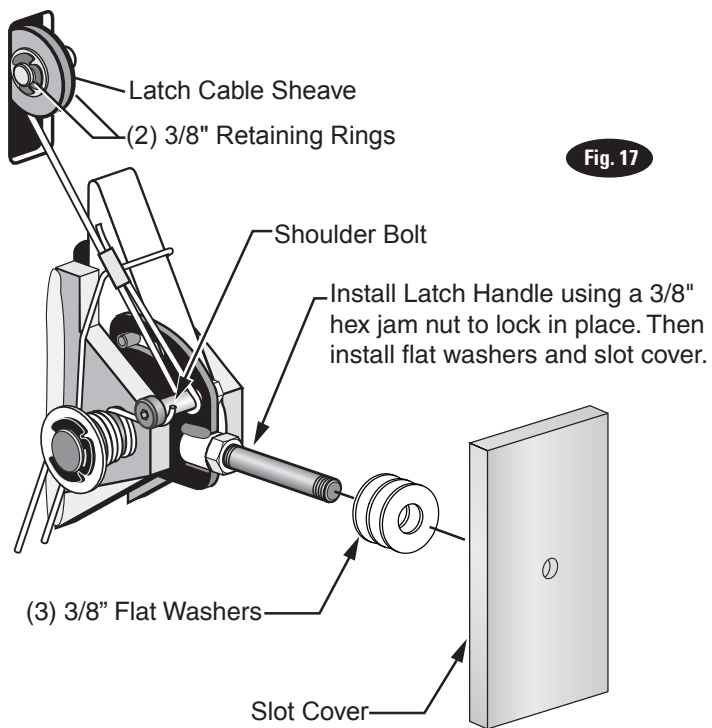
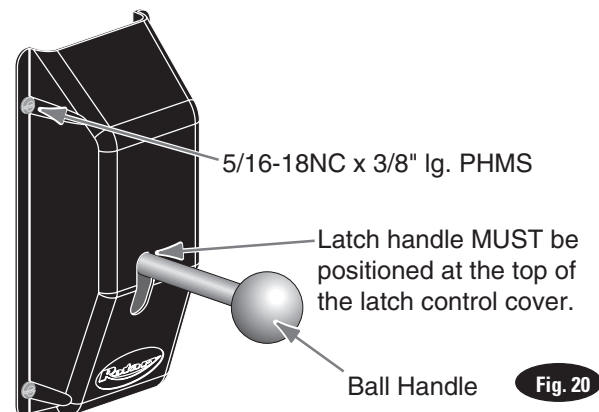

Fig. 17
Fig. 20
- A) Install latch cable sheave and retaining rings in upper slot of power unit column as shown, Fig. 17.
- B) Slip loop end of cable over end of shoulder screw on right side latch control plate, Fig. 17.
- C) Feed the other end of the cable through the latch cable sheave slot making sure that the cable is running under the bottom side of the latch cable sheave and inside the right column, Fig. 17.
- J) At this point you **MUST** install the latch handle, jam nut, and right column latch cover Fig. 17 & Fig. 20. Install latch handle ball, Fig. 20.